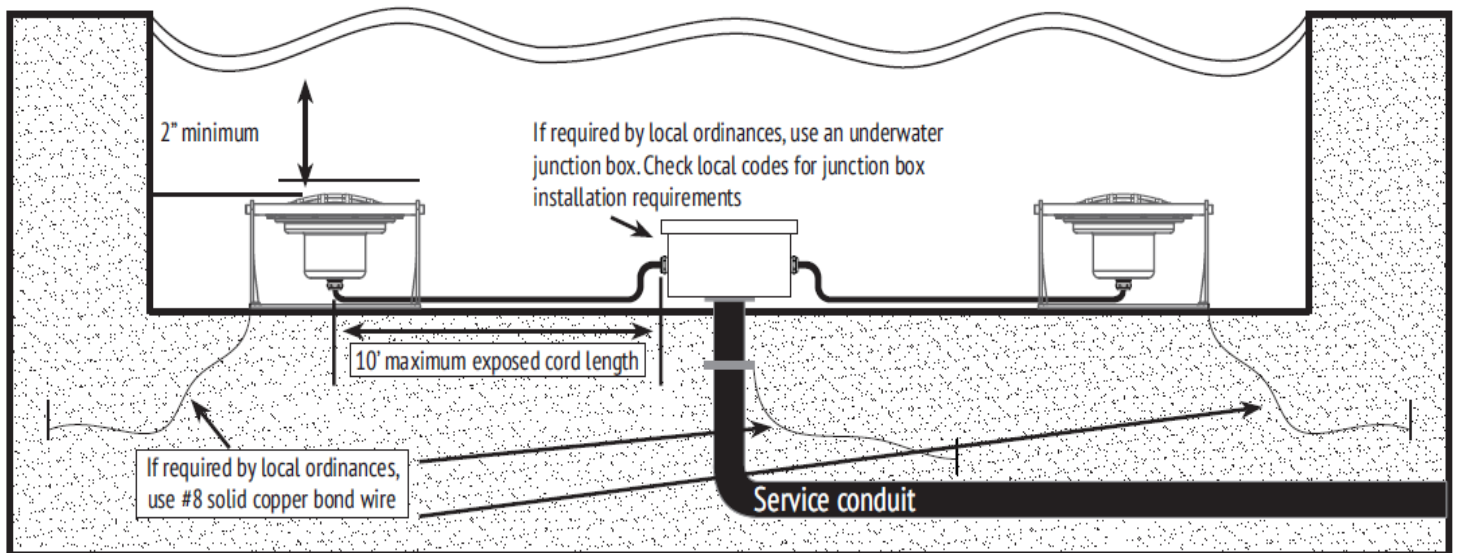

Fig. 1
2. Check Local Codes for Junction Box installation requirements. Ensure that the length of exposed cord in the fountain is no more than 10 feet (3 m.), see Fig 1.